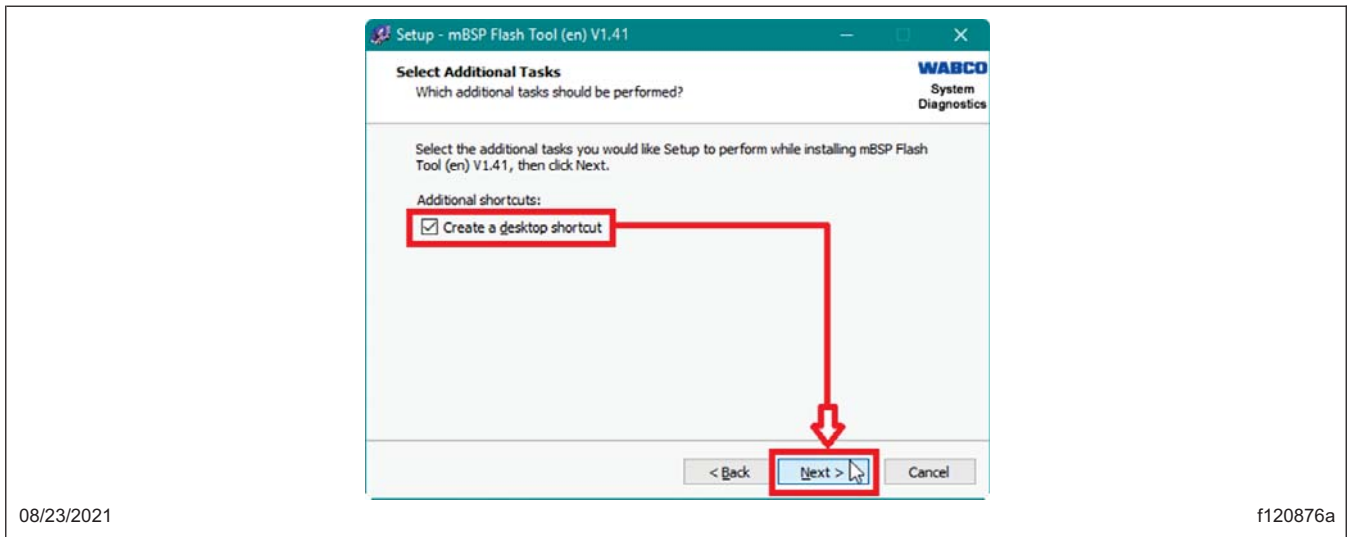

Fig. 16, Creating a Desktop Shortcut
7.10 In the 'Select Additional Tasks' window which will appear next, select 'Create a desktop shortcut,' then select 'Next.' See Fig. 16.